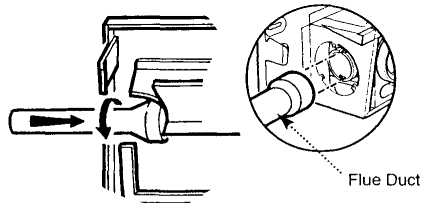

Fig. 57
3. Locate the flared end of the flue duct over the bayonet fitting on the turret, taking care not to damage the 'O ring. Lock the flue duct in place by pressing in and turning clockwise (Fig. 57).